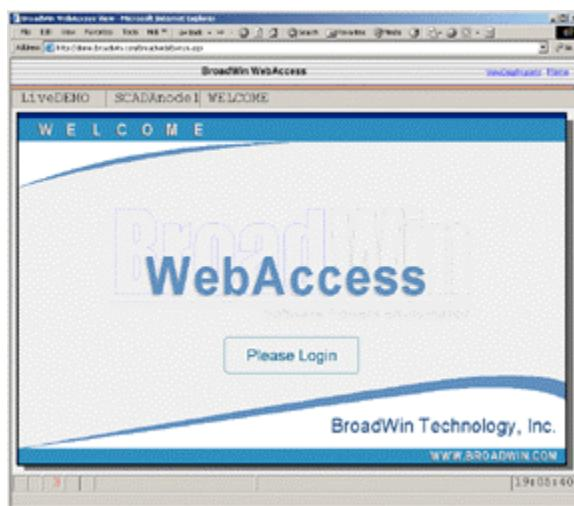
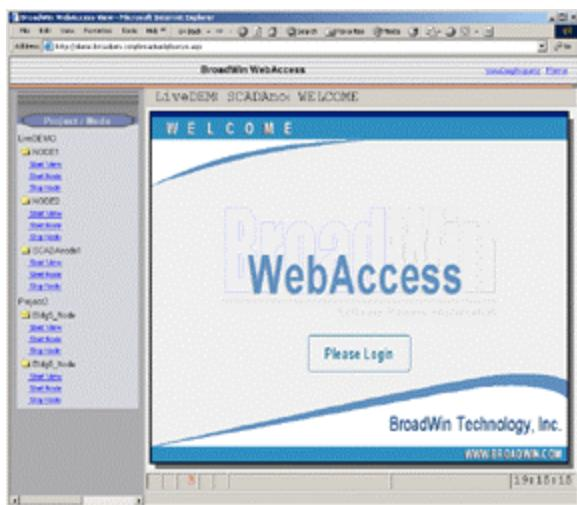

Figure 1.19 VIEW Login
Figure 1.20 VIEW Login - multiple Nodes
4. The WebAccess **View Login Page** appears (Figure 1.19).
- 4a. If there are more than one Project or SCADA node, a Project Tree appears (Figure 1.20).
Hint - Notice that Figure 1.19 does not show the Navigation Tree in the left frame. Yet, Figure 1.20 shows multiple Nodes each with Start Node, Start View and Stop Node. If there is only one SCADA Node in the project, the navigation tree is not shown.
5. Click on "Please Login" (Figure 1.19 or 1.20).